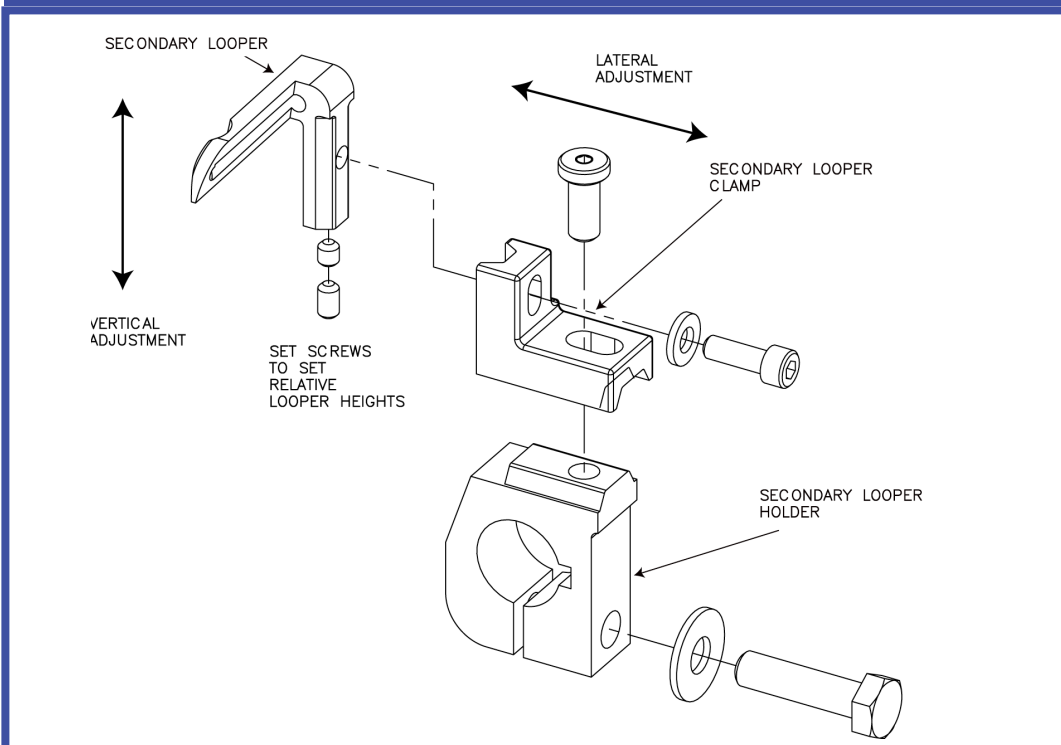

Figure 5.15 Secondary Looper Adjustment
7. After setting the position of the primary looper, the secondary looper position must be adjusted relative to the needle to achieve the spacing as provided in section 5.3.3 (Needle and Looper Clearance). The Secondary looper clamp assembly as illustrated in Figure 5-15 is designed to achieve this set up.
8. The Secondary looper clamp as shown in Figure 5-15 is designed to provide vertical and lateral movement to the secondary looper. The nose of the secondary looper can be set as close as possible to the scarf present in the side of the needle without any interference similar to the primary looper. Figure 5-15 illustrates the fasteners used to provide vertical and lateral movement to the secondary looper.